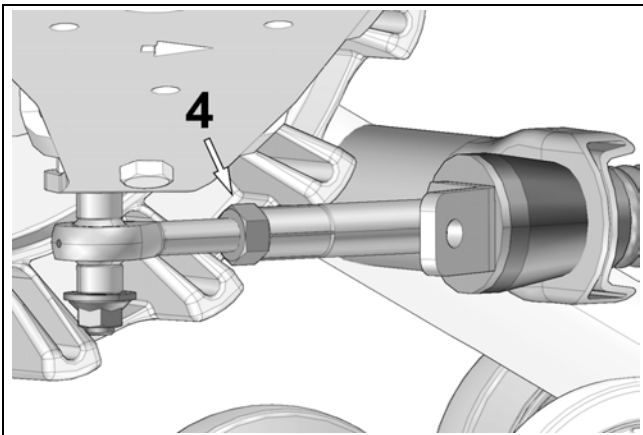

Figure 4
- When angle of attack is correctly set, re-tighten the jam nut (**4**) to 40 N•m [30 lb•ft] of torque. See Figure 4.